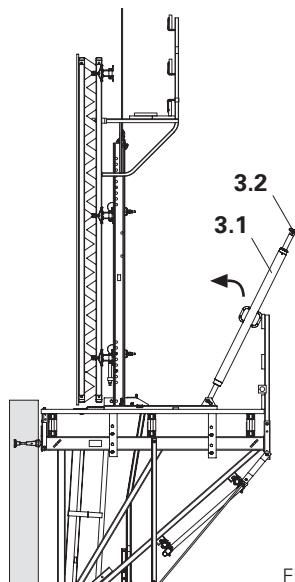
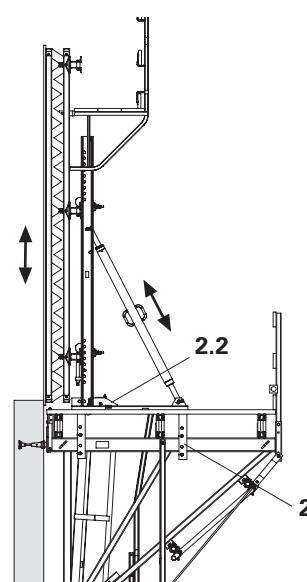

Fig. B2.08
Fig. B2.09
6. Fix Adjustable Brace (3.1) to Strongback with bolts Ø 25 x 180 and cotter pins (3.2). (Fig. B2.08)
9. Move Carriage (2) with formwork forward to the wall and secure Carriage with wedge (2.2).
10. Align formwork. (Fig. B2.09)